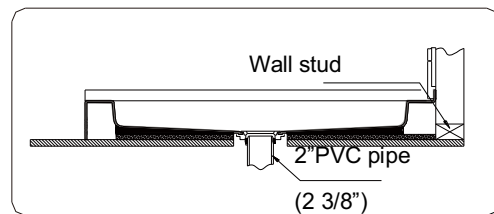

Fig. 4
4. Place the **Tray (16)** in the required position with both flanged sides firmly against the studs. Level the tray and place marks on studs on the upper edge of the tile flange. Remove the tray from the place. Mix the bedding material (mortar, plaster, etc.). Please note that concrete is not recommended. Spread enough bedding material to support the entire bottom of the shower tray. See fig. 4 & 5 for details.